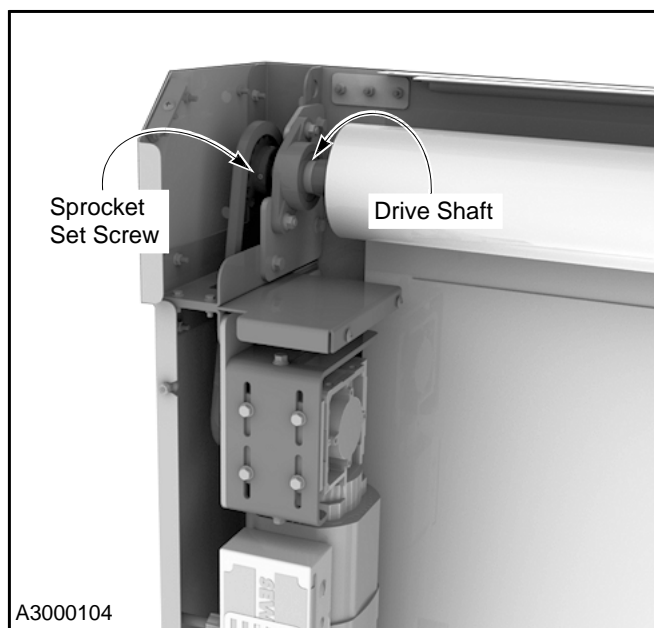

Figure 39
5. Verify the drive motor and drum/fabric roll sprockets are aligned, with adequate clearance on both sides of the chain. Make any necessary adjustments by repositioning the sprocket along the drive shaft of the drum/fabric roll assembly. (See Figure 39.)